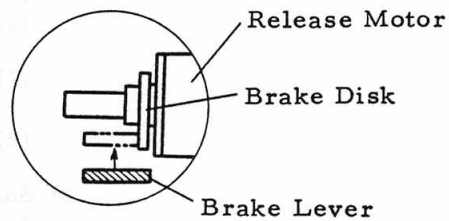

Fig. 16
- 2) The contact makes 5 to 5-1/4 turns before where the Brake Disk (97-0729) engages with Brake Lever (49-0471). (Fig. 16) Make adjustment by bending the stationary contact.